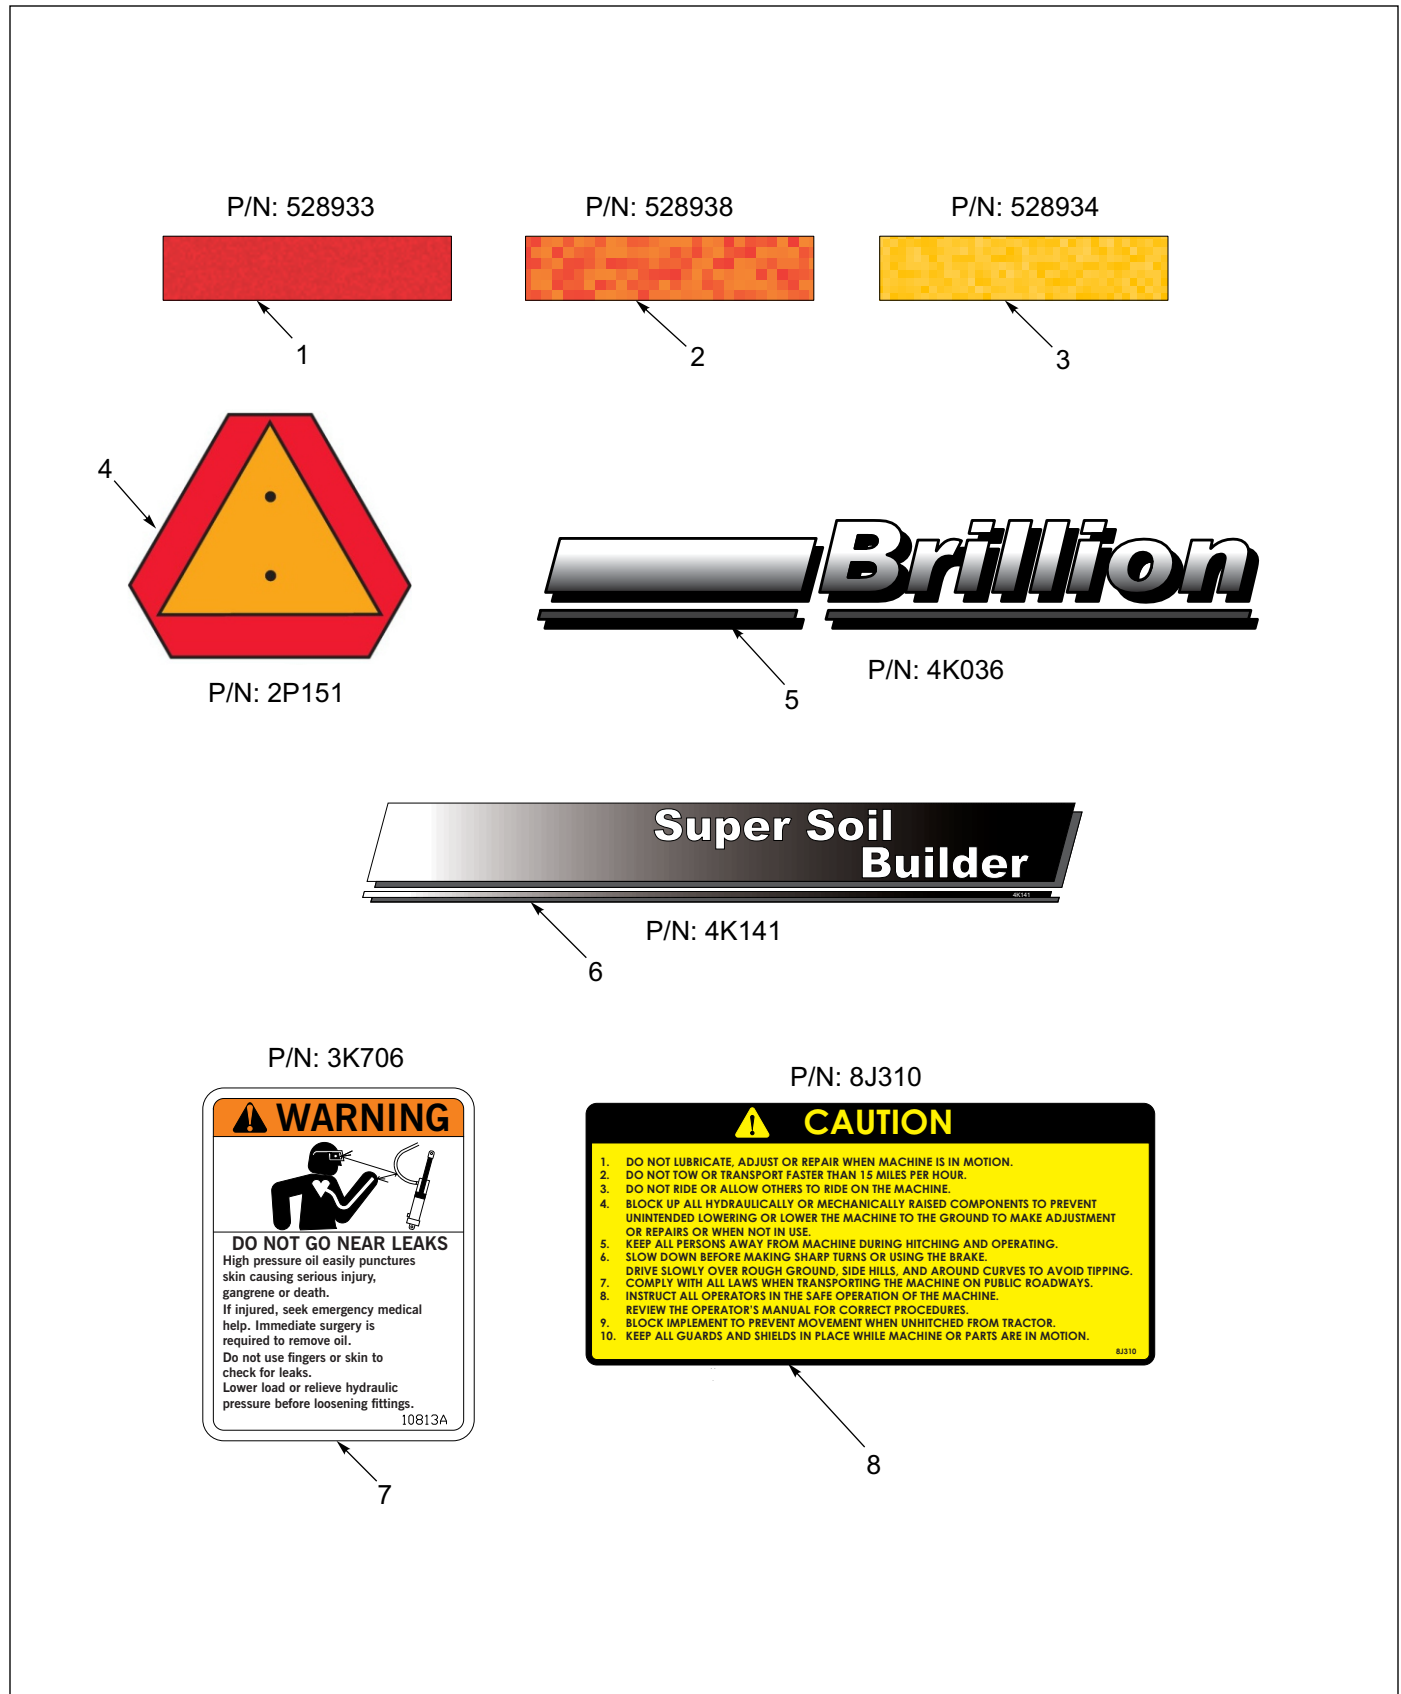

Figure 1-4: Decals
- Examine safety decals and be sure you have the correct safety decals for the implement. **See Figure 1-4.**